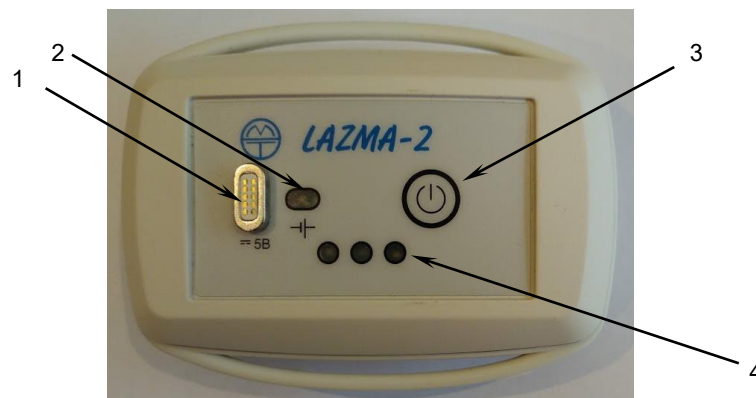

FIGURE 1: AMT LAZMA-2 FRONT SIDE
Figures 1 and 2 below shows the AMT LAZMA-2 and its notable features.
Prior the use please charge the internal battery by connecting the charger to. The charger is magnetically attached to the socket on the side panel of the device (Figure 1, pos. 1). In this case, the green LED starts flashing up indicating the charging in progress. When the green LED goes off it means that the internal battery is fully charged. With a fully charged battery, the sensor can serve 4 hours of continuous operation. The need for charging is indicated by a flashing yellow LED.